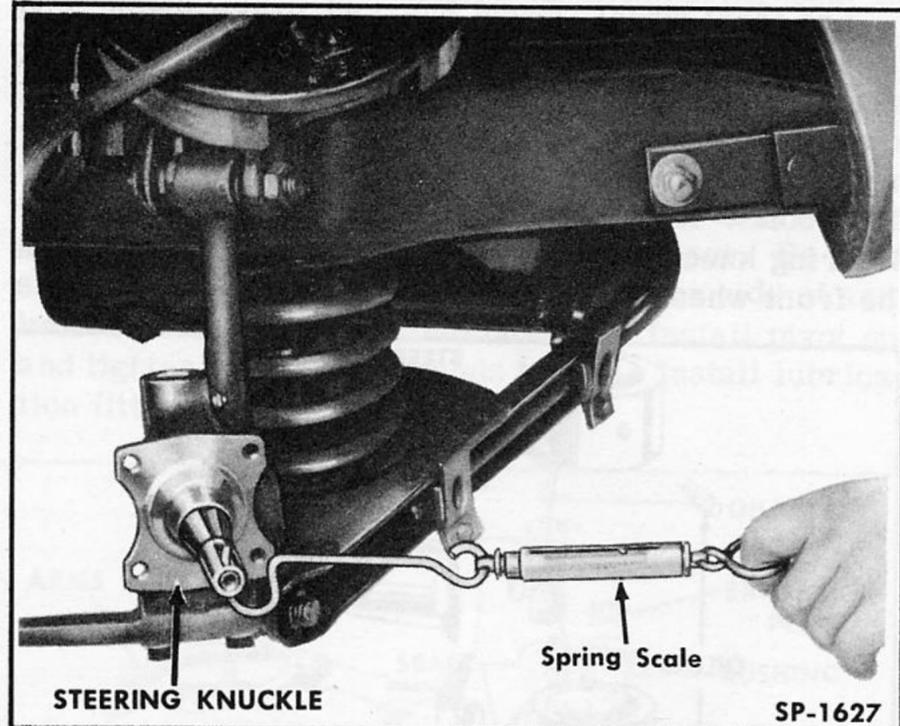

Fig. 166—Checking Steering Knuckle Fit
2. Check fit of steering knuckle on king pin. A spring scale attached to the cotter pin hole (Fig. 166) should measure not more than 5 pounds pull to swing knuckle. The knuckle should not have more than .002 inch vertical movement on the king pin. Add or remove shims (available in various thicknesses) between top face of support and steering knuckles as required.